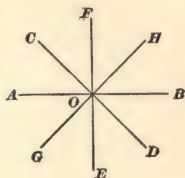

FIG. 15.
34. Also, if through a given point any number of straight lines be drawn, the sum of all the angles formed about the points of intersection equals four right angles, or 360° . Thus, in Fig. 15, angles $HOF + FOC + COA + AOG + GOE + EOD + DOB + BOH = 4$ right angles, or 360° .